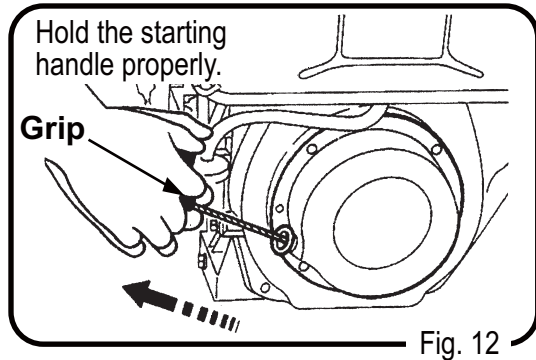
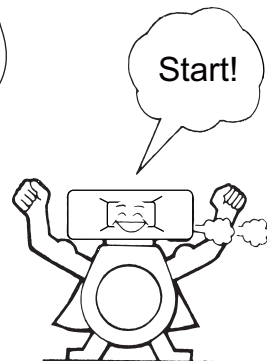

Fig. 12
Fig. 14
- ① Pull out the handle to the point where you feel strong resistance, and then return it to the initial position. (Fig.12 & 13)
- ② Push down the decompression lever. It will return automatically when the recoil starter is pulled.
- ③ Pull out the recoil starting handle briskly with both hands. (Fig.14 & 15)